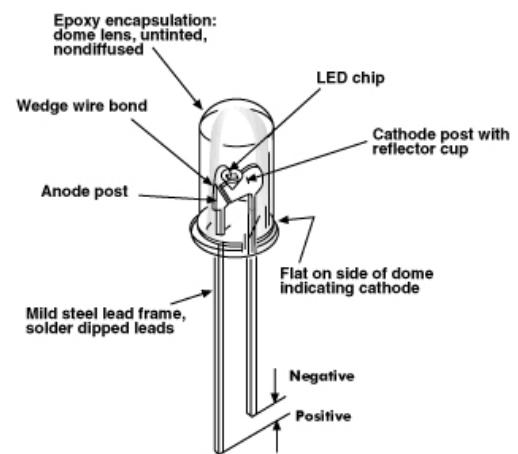

Figure 1: Diagram of a through-hole LED
1. Through-hole (sometimes called 3mm, 5mm or 10mm as defined by the diameter) (Figure 1)